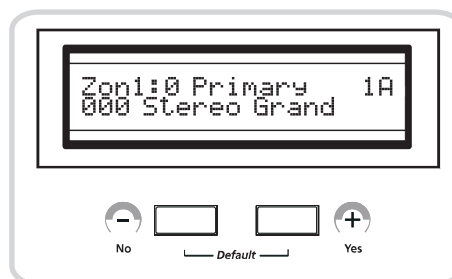

Figure 4-2
4. If you want to change your Main sound, press the [Main] button and use Sound Select buttons. (In this case, the display will look like Figure 4-2)